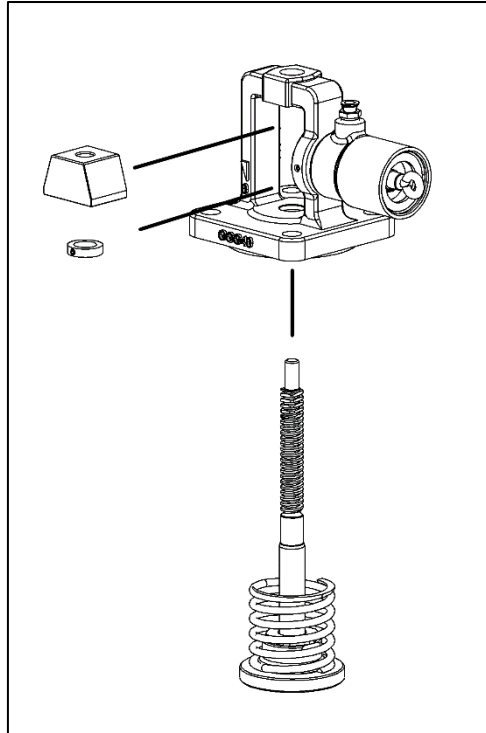

Figure 2 Remove setting nut and indication nut to be able to remove stem from bonnet.
7. Pull out the stem with disc and spring from the bonnet as you unscrew it from the old setting nut. (see figure 2)